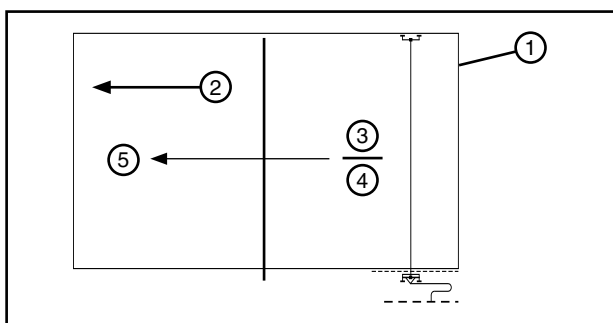

Figure 40-2 1. Field
3. Reverse the system direction, set the percentage timer, and run the system wet or dry back to the original end of the field. See Figure 40-2.